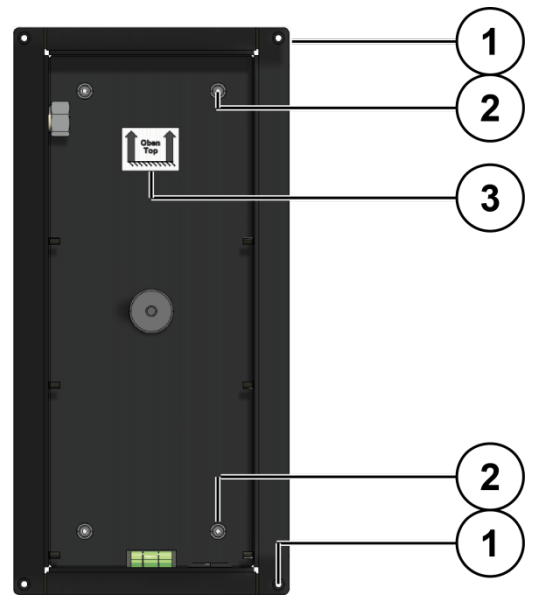

Fig. 2: attachment holes
- ▶ Mark the drilling holes with the help of the flush-mount box (Fig. 2). For fixing the flush-mount box you can use the outer holes **(1)** or the inner holes, depending on the type of installation **(2)**.